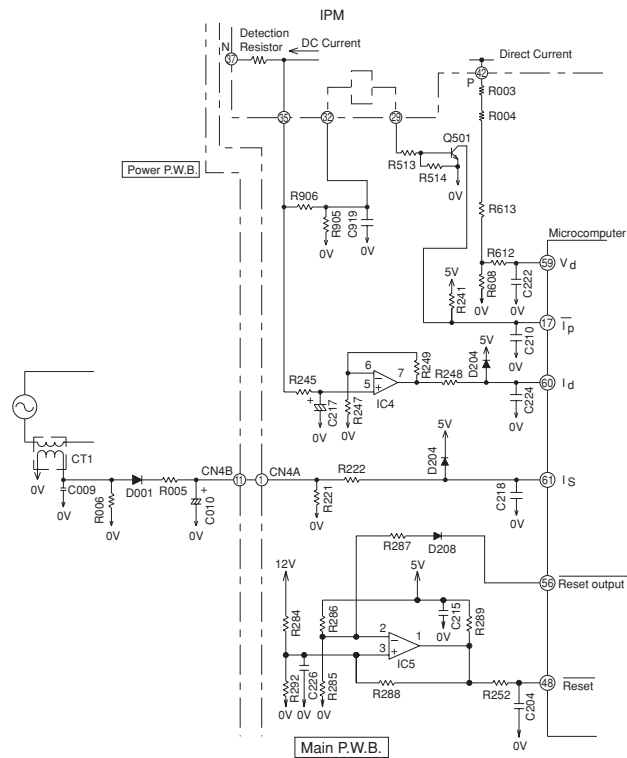

Fig. 6-2
ID OVL is watching and limits the compressor current through the detection resistor, which is built in IPM in order to control the compressor reliability. Since the compressor reliability is related with its speed, the ID OVL value is also linked with the compressor speed. Fig. 6-2 shows an ID OVL limitation curve.
(2) ID OVL
Fig. 6-2. The filter consisting of R245 and C217 removes high harmonic frequencies from the voltage generated by the current flowing to Detection resistor; R245 and C217 average the voltage. This voltage is then input to IC4 pin ⑤ and supplied to microcomputer pin ⑥. The microcomputer compares this input with the set value, and if the input exceeds the set value, it enters overload control status.